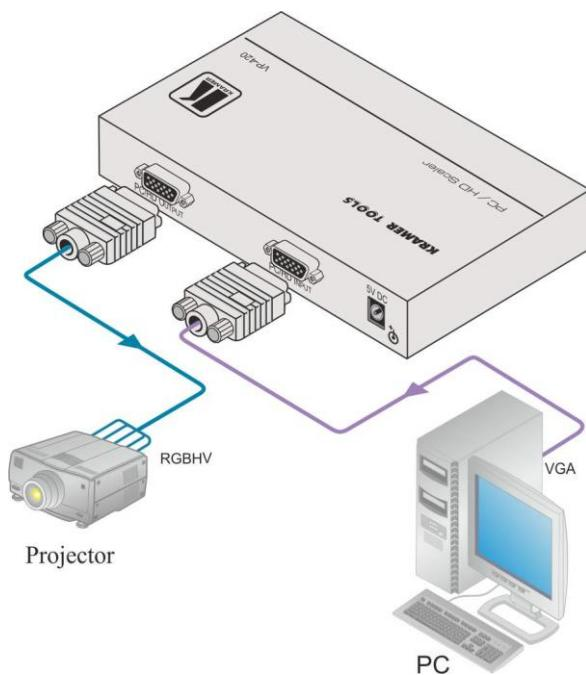

Figure 3: Connecting the VP-420 PC/HD Scaler
To connect the **VP-420**, **VP-421** as illustrated in the example in Figure 3:
4. Connect the 5V DC power adapter to the power socket and connect the adapter to the mains electricity (not shown in Figure 3).